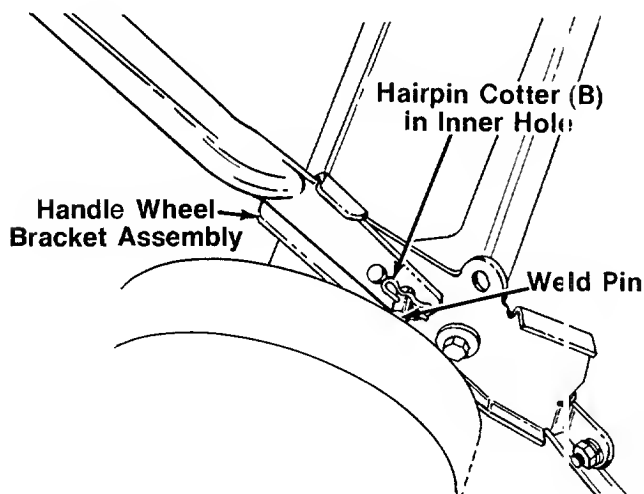

FIGURE 2.
3. Attach the lower handle by placing the bottom holes in the lower handle over the weld pins on the handle wheel bracket assemblies. Make certain the instruction label on the lower handle can be read from the operating position. Secure with hairpin cotter (B) in inner holes on weld pins. See figure 2.